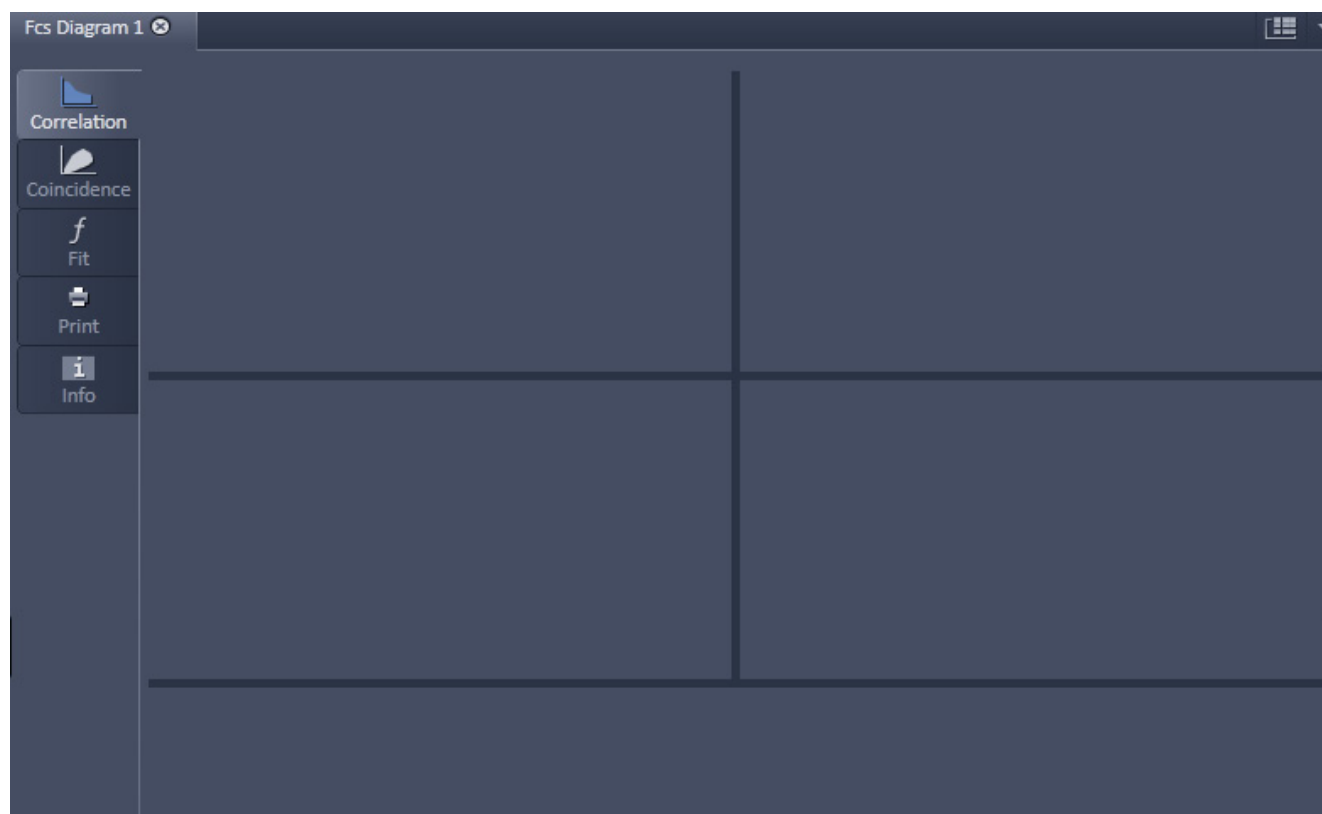

Fig. 322 Image Container with new FCS Diagram opened
- Click on the **New** document button to open a new **FCS Diagram** in an **Image Container**. New diagrams per session will be numbered starting with 0 (Fig. 322).
- Click the **Close** button (cross symbol) in the tab to close the **FCS Diagram**. The **Close Image** window will appear and prompt you to acknowledge closing the diagram if anything on the data was altered. Press **Yes** to save any changes, **No** to discard the alterations and **Cancel** to return to the diagram (Fig. 322).